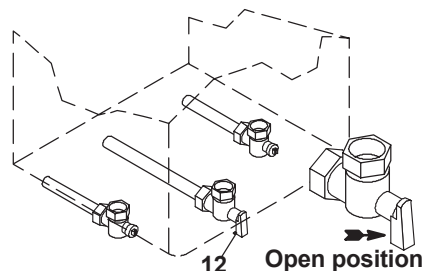

Fig. 8.7
- Open the gas cock (12 in Fig. 8.7)